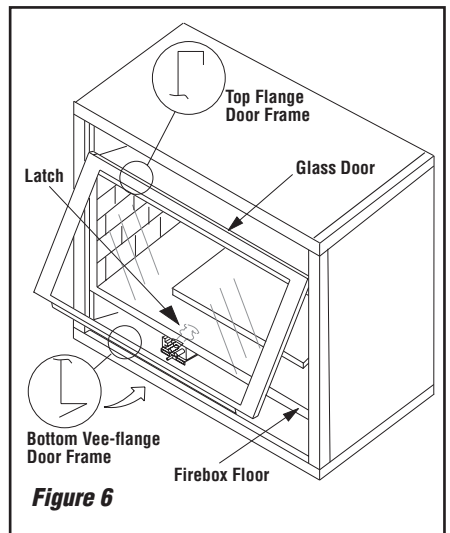

Figure 6
- 1 - Lower the bottom control compartment access panel. Remove the glass enclosure panel: open the latch (located in the center of the unit front opening, under the firebox floor) securing the glass enclosure panel. Remove the panel by tilting it outward at the bottom and lifting it up. Set the door aside protecting it from inadvertent damage. See **Figure 6 on Page 8**.
Refer to *Figure 6* and remove the front glass enclosure panel as follows: